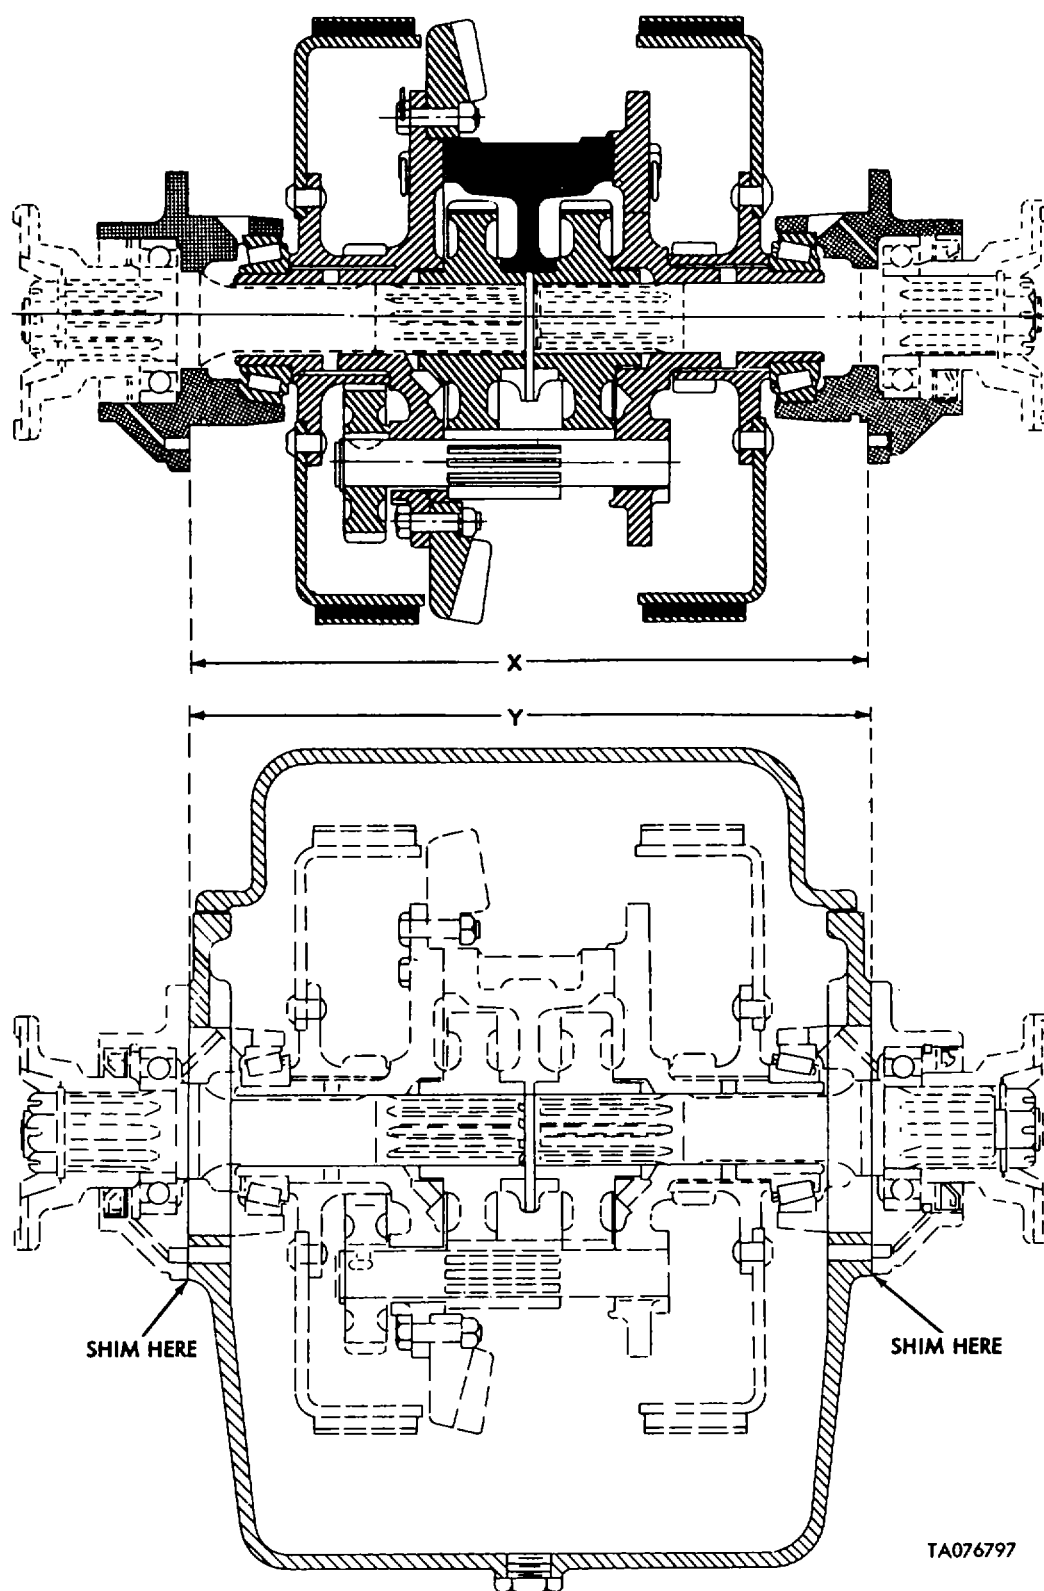

Figure 4-20. Shims Installation to Set Preload of Output Roller Bearings
- (i) Measure and record distance X between inner faces of mounted retainers as indicated in figure 4-20.
- (j) Measure and record distance Y (fig. 4-20) between retainer mating surfaces of housing (34).
- (k) Remove retainers, containing cups of bearings (1).
- (l) Place gear cluster and associated parts, including brake band assemblies (3) within housing (34), resting on four backup bolts (47).
- (m) Subtract 0.002 to 0.007 inch from the difference between the two dimensions X and Y. Resultant number represents total shim thickness that must be introduced between retainers (29) and housing (34).